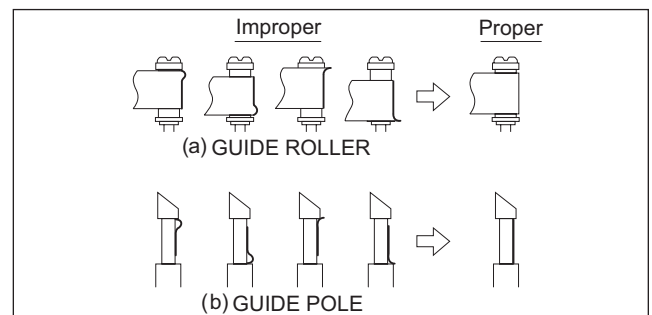
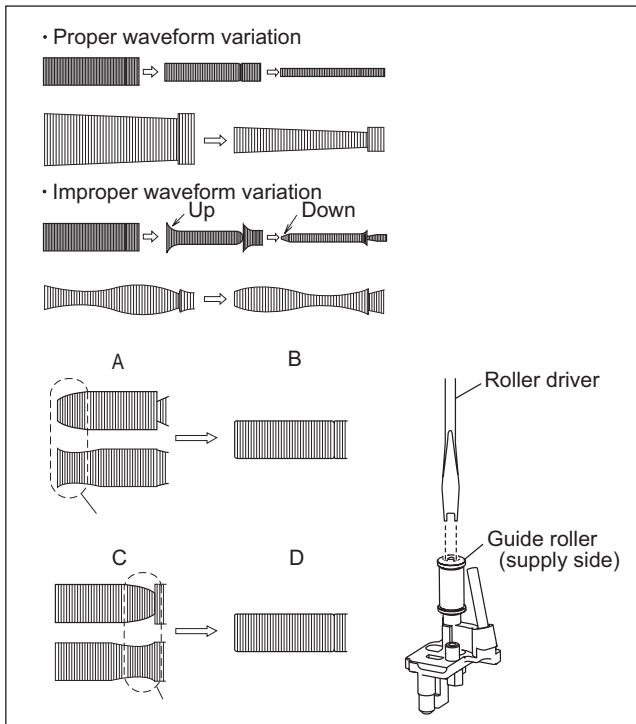

Fig.4-2b
Fig.4-2c
- To prevent damaging the alignment tape in the compatibility adjustment, prepare a cassette tape (for self-recording/playback), perform a test on it by transporting it and making sure that the tape is not bent by the tape transport mechanisms such as in the guide rollers. (See Fig.4-2b.)
- (1) Play back the alignment tape (A1).
- (2) Apply the external trigger signal to D.FF (E), to observe the V.PB FM waveform at the measuring point (D).
- (3) Set the VCR to the manual tracking mode.
- (4) Make sure that there is no significant level drop of the V.PB FM waveform caused by the tracking operation, with its generally parallel and linear variation ensured. Perform the following adjustments when required. (See Fig. 4-2c.)
- (5) Reduce the V.PB FM waveform by the tracking operation. If a drop in level is found on the left side, turn the guide roller of the pole base assembly (supply side) with the roller driver to make the V.PB FM waveform linear. If a drop in level is on the right side, likewise turn the guide roller of the pole base assembly (take-up side) with the roller driver to make it linear. (See Fig. 4-2c.)
- (6) Make sure that the V.PB FM waveform varies in parallel and linearly with the tracking operation again. When required, perform fine-adjustment of the guide roller of the pole base assembly (supply or take-up side).
- (7) Unload the cassette tape once, play back the alignment tape (A1) again and confirm the V.PB FM waveform.
- (8) After adjustment, confirm that the tape wrinkling does not occur at the roller upper or lower limits. (See Fig. 4-2b.) [Perform adjustment step (9) only for the models equipped with SP mode and EP (or LP) mode.]
**[Perform adjustment step (9) only for the models equipped with SP mode and EP (or LP) mode.]**
- (9) Repeat steps (1) to (8) by using the alignment tape (A2).